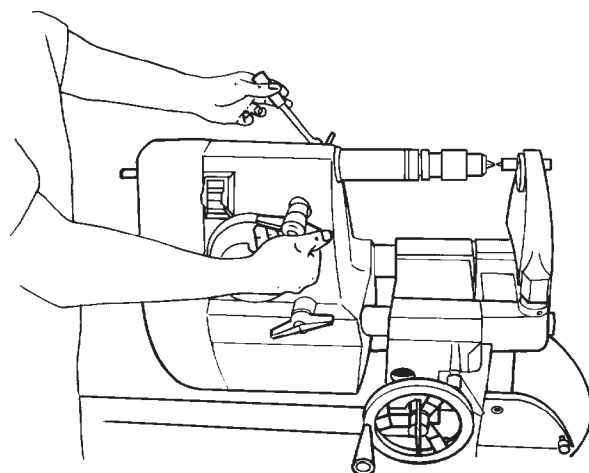

Figure C-74
88. Loosen the quill lock. Extend the quill (seen in Figure C-74), so the drill chuck almost touches the cup center point and the center point could fit into the chuck jaws.